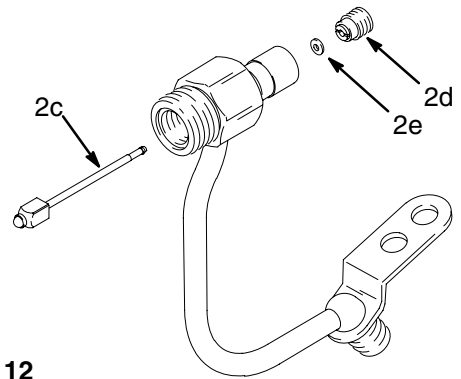

Fig. 12
8. Remove the needle (2c). Unscrew the seal retainer (2d). Remove the seal (2e). See Fig. 12.